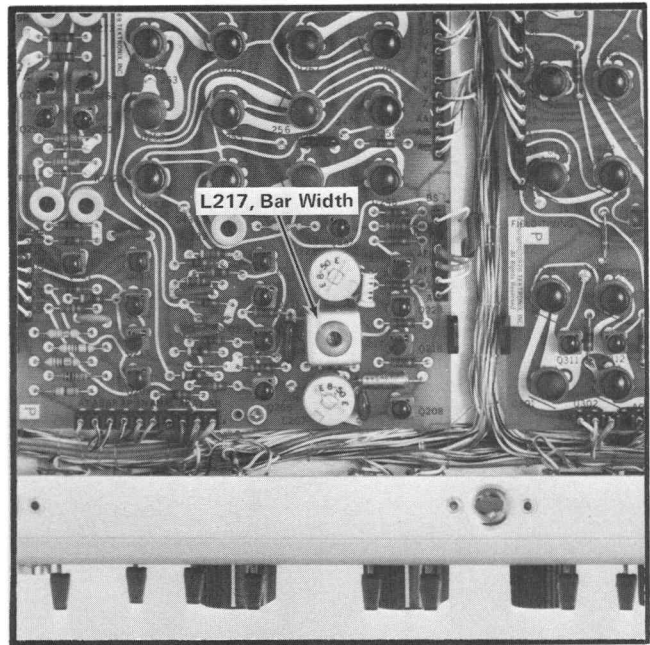

Fig. 6-3. Bar Timing board adjustment location.
c. ADJUST—L217, Bar Width, (see Fig. 6-3) for a black level width of 6.6 μ s. (This adjustment is not critical at this time.)